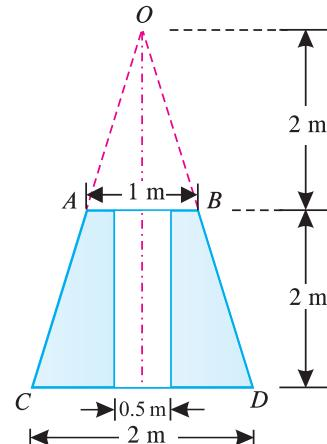

Fig. 6.29.
**Solution.** As the body is symmetrical about vertical axis, therefore its centre of gravity lie on this axis. For the sake of simplicity, let us assume a right circular cone OCD, from which a right circular cone OAB is cut off as shown in Fig. 6.29.